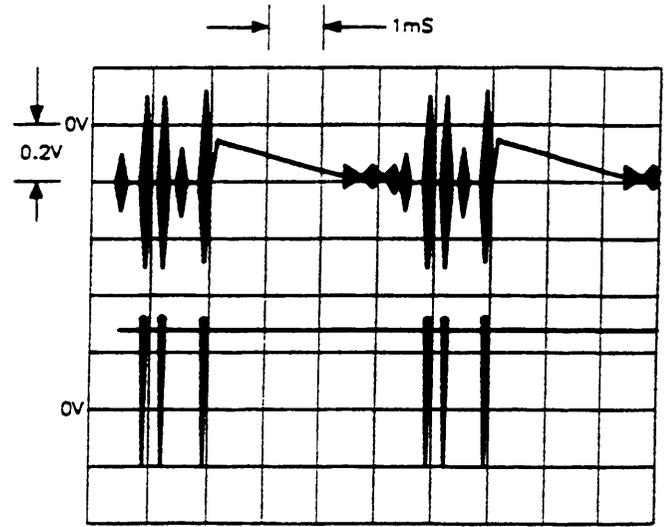

Figure 5. Beatnote Detector.
8. Connect Channel B to A4W2, open pin, and verify that the oscilloscope display shown in Figure 5 is correct. Place A4W2 back to the W2 position.